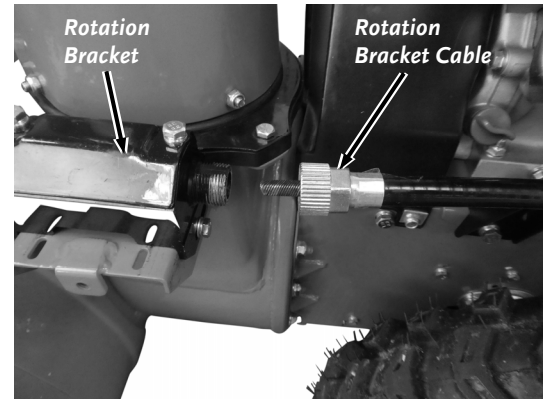

Figure 15
14. Screw the end of the Rotation Bracket Cable onto the Rotation Bracket (**Figure 15**).